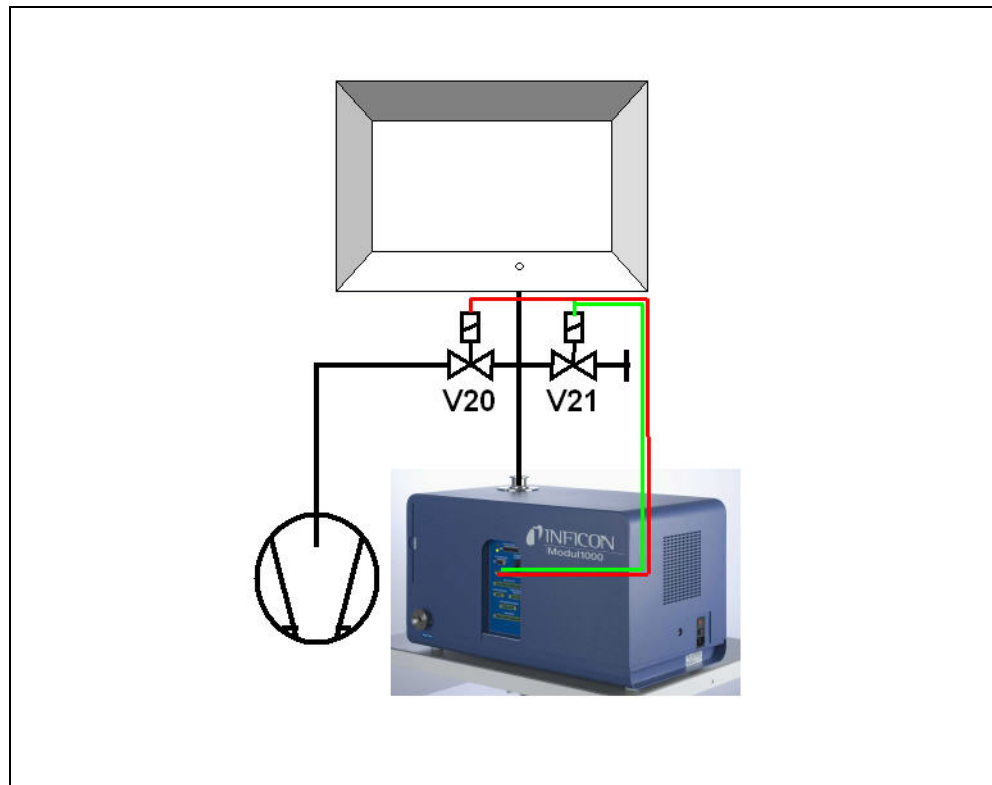

Fig. 5-1 Partial flow mode
The construction of a leak detection system with the Modul1000 commander function corresponds essentially to that of a conventional integral leak test system. The vacuum chamber is evacuated by the Modul1000, alternatively also in the partial flow mode (Fig. 5-1 Partial flow mode). The DUT located in the vacuum chamber is connected to the helium filling device through the chamber walls and is charged with helium in the evacuated state of the vacuum chamber.
- 2** After initiating the START signal, the Modul1000 starts evacuating the vacuum chamber. If a partial flow pump is connected to the Modul1000, the partial flow valve V20 (Fig. 5-1) is controlled and the test sequence is supported according to the partial flow setting by the partial flow pump.
- 11 Subsequently, the vacuum chamber is ventilated to atmospheric pressure by the Modul1000 (and the external Flood Valve V21 (Fig. 5-1) if connected).